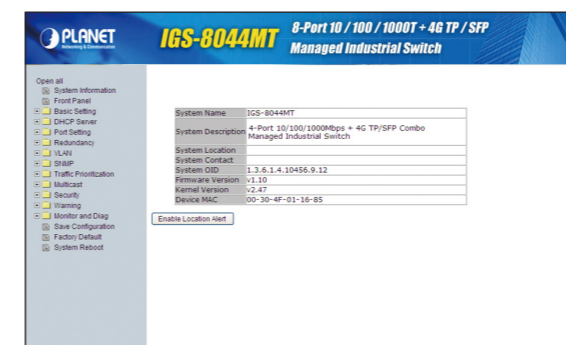

Figure 7-3 Web Main Screen of the Managed Industrial Switch
3. After entering the password, the main screen appears as Figure 7-3.